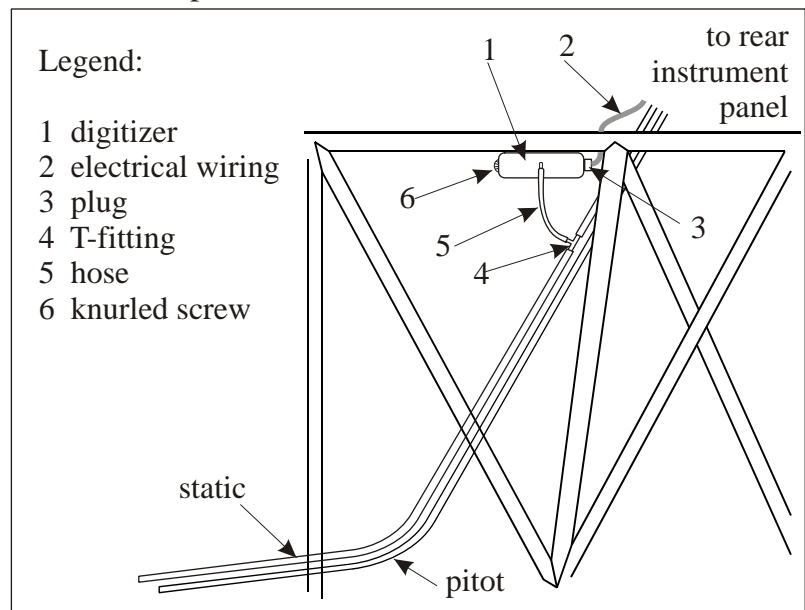

Figure 2 Blind Encoder Removal/Installation
When a blind encoder is used it is installed under the left upper longeron just in front of the rear instrument panel. A mounting tray is attached to the steel tube frame by two bolts. The digitizer (1, Figure 2) is slid into the mounting tray and then fixed by a knurled screw (6). The knurled screw is secured by a wire. The static port of the digitizer is connected to the aircraft static system by a hose (5) ending at a T-fitting (4). The electrical wiring (2) is connected via a plug (3).
- 2 Disconnect the electrical wiring from the digitizer (1, figure 2) by pulling the plug (3).
- 3 Disconnect the hose (5) from the digitizer static port.
- 4 Remove the safety wire of the knurled screw (6).
- 5 Loosen the knurled screw and remove the digitizer (1).